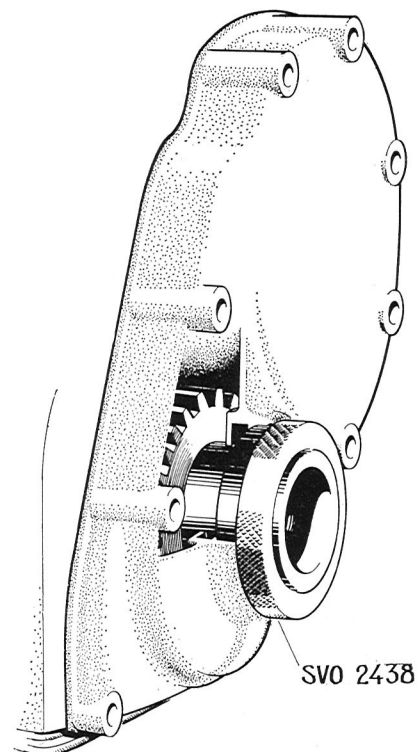

Fig. 2-49. Centering timing gear
6. Center the cover with sleeve 2438, see Fig. 2-49. Turn the sleeve while tightening and adjust the position of the cover so that the sleeve is not jammed. Check after final tightening of the cover that the sleeve can be easily rotated without jamming.